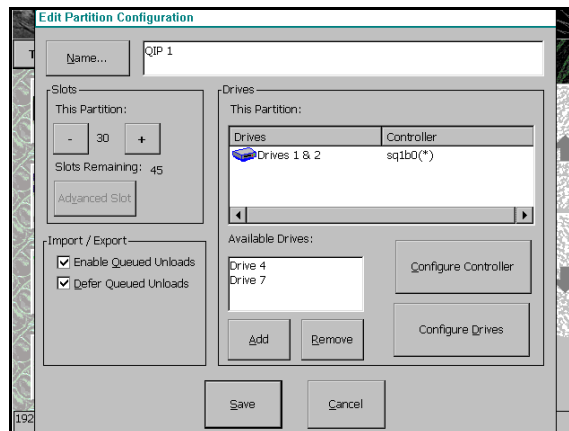

Figure 6-3 Edit Partition Configuration window.
- Tap **Edit**. The Edit Partition Configuration window appears (Figure 6-3).